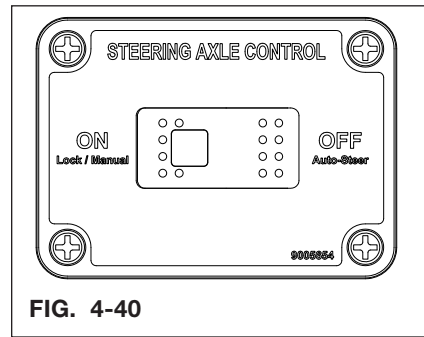

FIG. 4-40
1. Make sure the steering axle control switch is in the ON position. (Fig. 4-40)